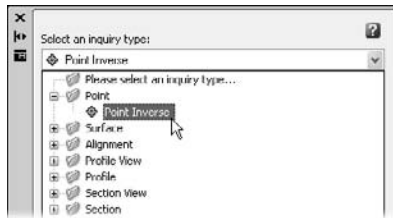

Figure 2.2
- On the Inquiry tool, select the Inquiry Type pull-down list and expand the Point branch to select Point Inverse as shown in Figure 2.2.